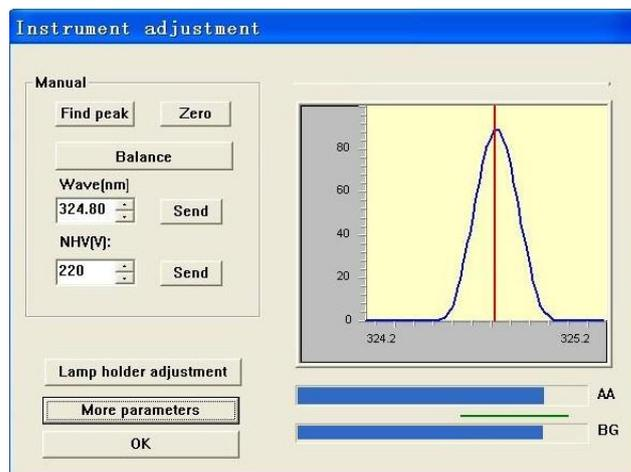

Figure 6-17
8. Press "Balance", and the screen will appear as shown in Figure 6-17.